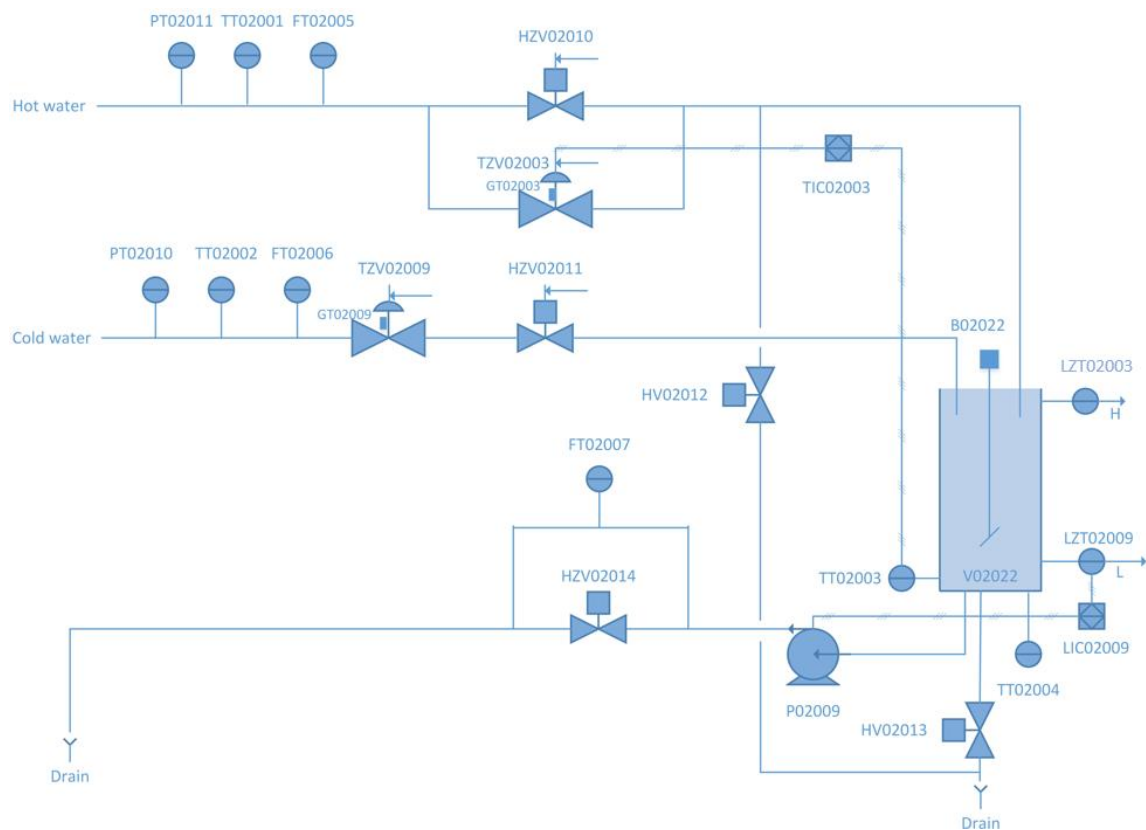

Figure 1: The P&ID for a laboratory process in the process hall at USN
The purpose of the experimental rig will be to test an autonomous system when including random disturbances like liquid leakages. The Process and Instrumentation Diagram (P&ID) for the process is shown in Figure 1 and consists of tank V02022 where hot and cold water is mixed by the agitator B02022, and two control loops: one for level control including pump P02009, and one for temperature control including valve TZV02003. The mixer B02022 should just be turned on with a digital signal when starting the system. The disturbances for the system can be controlled by the valves HZV02010, HZV02011, HV02012, HV02013 and HZV02014. Valves HZV02010 and HZV02011 are also used for shutdown of the system.
Your job as a project engineer will be to analyze, design and document a process control system that can be used for the experimental rig in Figure 1. The focus for the process control system is digitalization, to get data for the ML algorithms. Connection to an Enterprise Resource Planning (ERP) system, either local or cloud based, should also be considered for saving information. This means that both operation technology (OT) and information technology (IT) should be evaluated and included in the system.
- a) (3%) Illustrate with a sketch the interconnection of the building blocks that you will need for a PCS for the process shown in Figure 1.
Multitasking is structuring a software system into smaller, often manageable, software applications (also called processes, threads or tasks). A common way to do this is to group input and output signals that belongs to each other and make a separate application for each of these groups. Figure 1 shows the P&ID for a small process, and it is not recommended to control this system based on a large common loop. Instead, it should be divided into smaller subsystems and making an application for each of the subsystems.